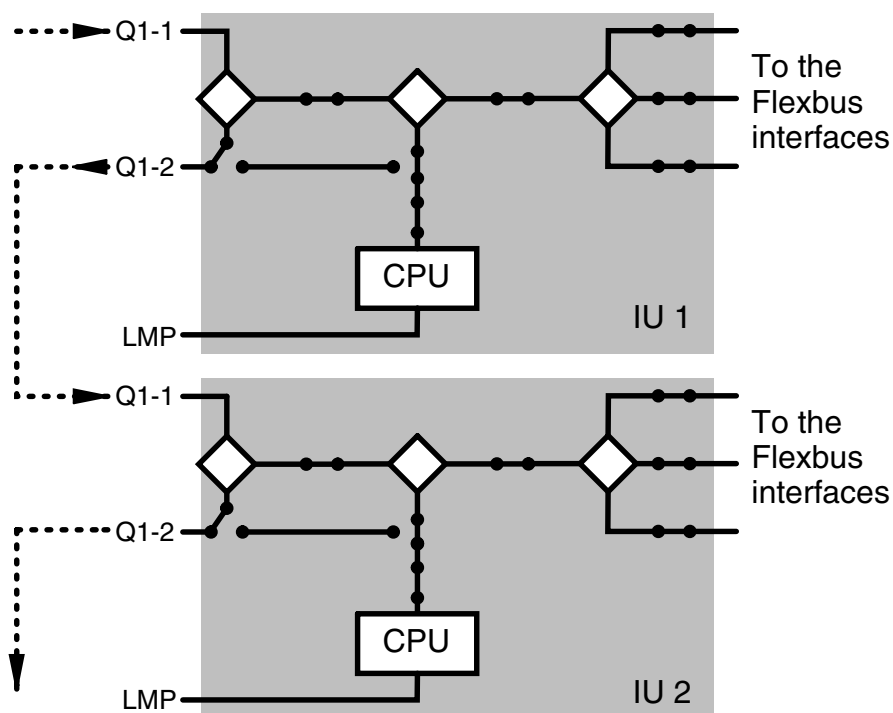

Figure 31. Chaining of the Q1 bus in FIU 19 (E)
Usually the Q1 bus is transmitted on the radio path in a separate auxiliary channel within the overhead of the radio frame. The Q1 interfaces are chained and the Q1 signal can be connected to either of them (Figure 31). In this case, a signal connected to the Q1-1 port is routed to the Flexbus interfaces (radio path), to FIU 19 (E) processor, and out from the Q1-2 port. The same applies vice versa to a signal connected to the Q1-2 port.